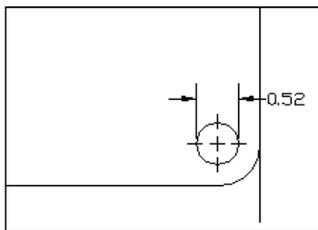

Figure 15-15: A narrow dimension using the Both Text and Arrows option.
- ♦ **Both Text and Arrows:** Keeps the text and arrows together — between the extension lines if there is enough room, outside the extension lines if not. Figure 15-15 shows a dimension using this option.